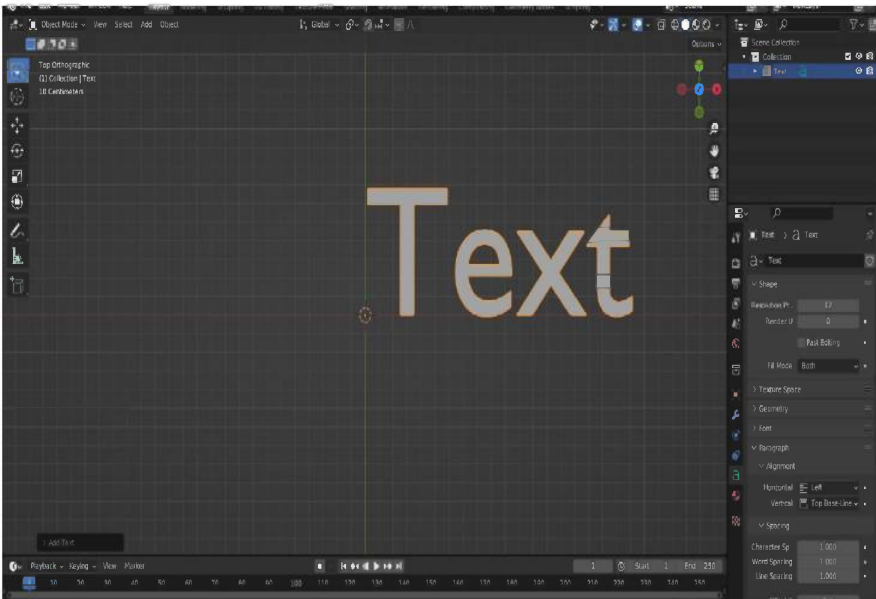

Figure 5.20: A new, editable Text object
3. From here, we can open the special Object Data Properties panel for Text, from the Properties panel tab appearing as a lowercase letter a, as shown in *Figure 5.20*: